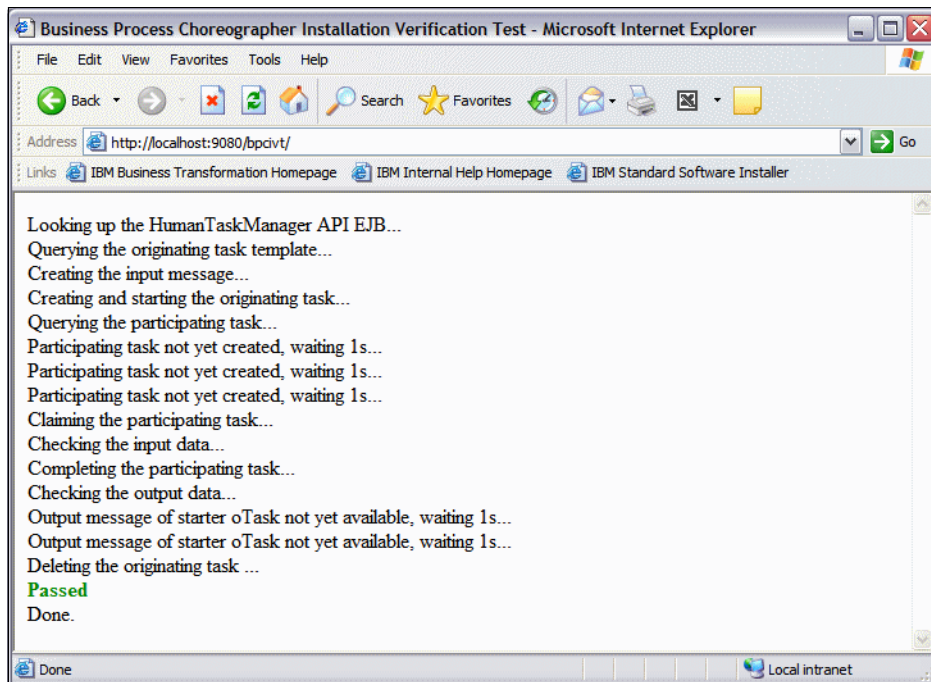

Figure A-37 Business Process Choreographer Installation Verification Tool
- ▶ The result should be as follows (Figure A-37).